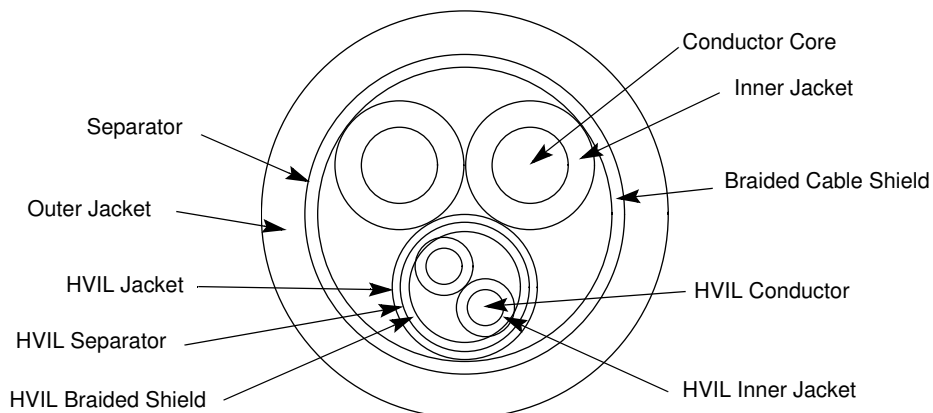

Figure 2
2.5. Cable and Subcomponent Specification (Figure 2)
NOTE Refer to Figure 2 for the various components of the cable as shown in an end view of the cable.